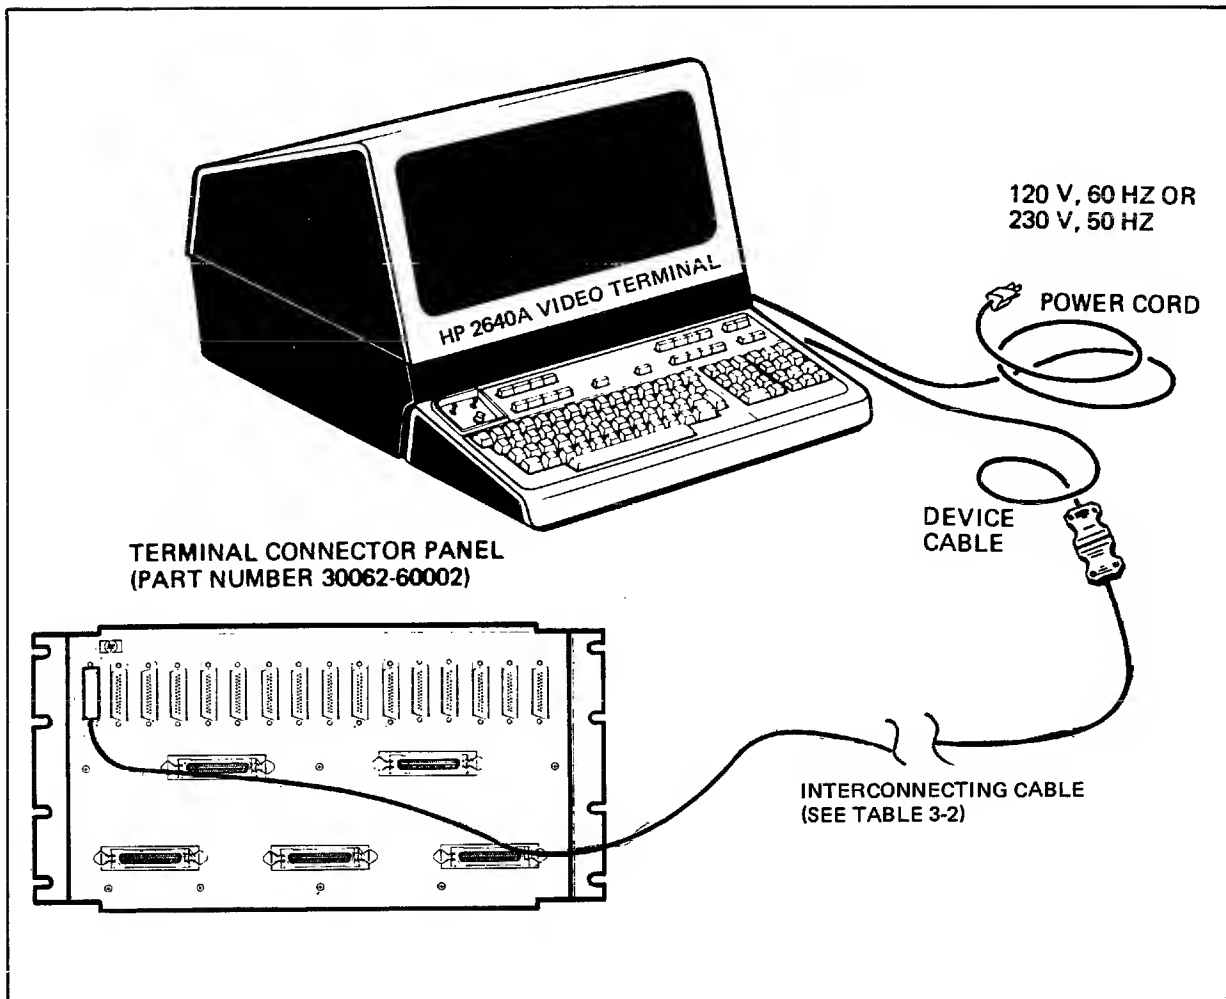
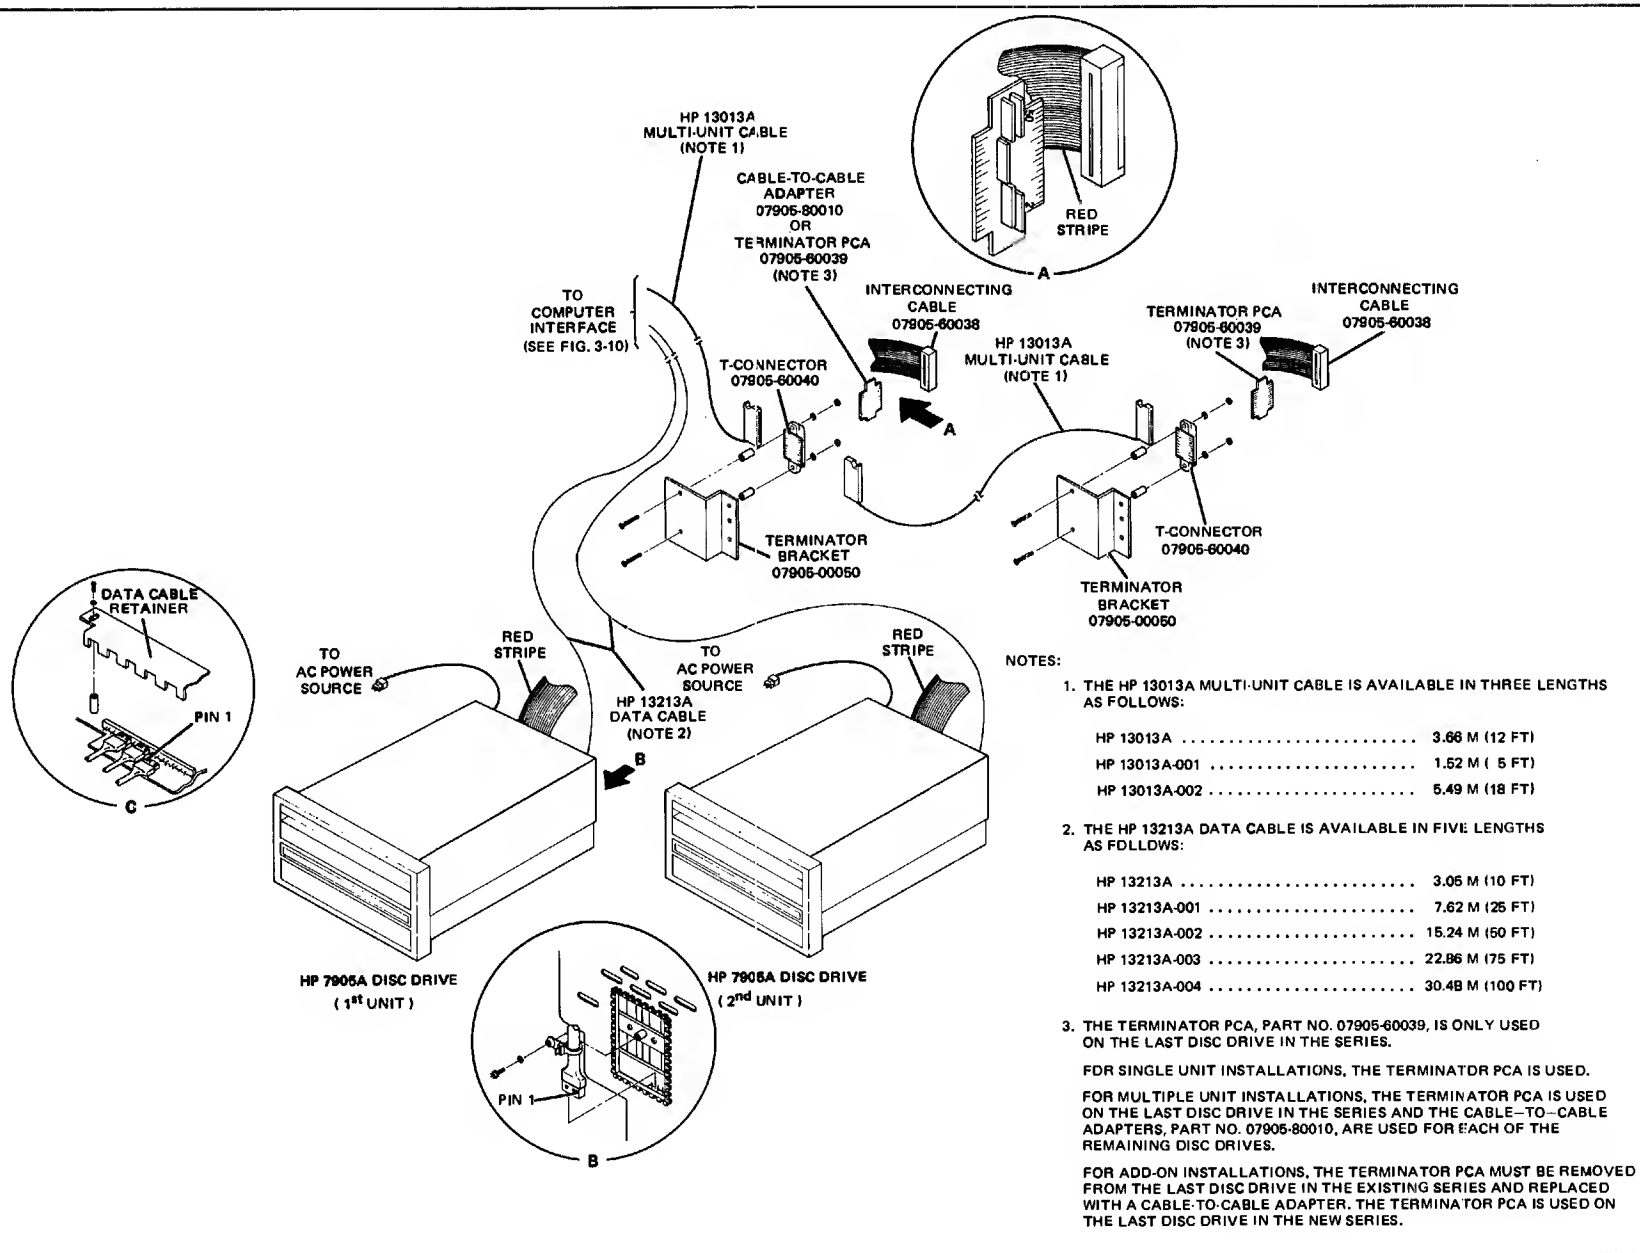

Figure 3-7. The HP 2640A System Console
Figure 3-11. Interconnecting HP 7905A Disc Drives
The HP 2640A Video Terminal is a free-standing cathode ray tube input/output device such as the HP 2640A Interactive Display Terminal. The Video Terminal is connected directly to an HP 3000 Series II Computer System through an HP 30032B Asynchronous 16-Channel Terminal Controller Subsystem as the System Console or as one of several remote user terminals. Remote user terminal connections are made through a Bell Telephone Model 103 Data Modem and an HP 30032B Option 001 or Option 002 Subsystem. See figures 3-7, 3-8, and 3-9.
All cables required for the three uses of the HP 2640A Video Terminal with a system are noted within figures 3-7, 3-8 and 3-9. Also, you should note the following restrictions:
If an HP 2640A is to be used as the System Console, its interface cable must be connected to jack J0 on an HP 30062A Connector Panel. If an HP 2640A is to be used as a remote user terminal, its interface cable must be connected to any other jack than J0 on an HP 30062A Connector Panel. In either case, uncoil the interface cable and connect equipment as shown in figure 3-7 or 3-8 or 3-9. Connectors on the back of the HP 2640A are keyed or notched to match the cable terminators that can be installed there. Connect the AC power cable into the peripheral AC power receptacle. Do not turn-ON AC power to the HP 2640A at this time.
**3-13. INTERCONNECTING HP 7905A DISC DRIVES.** Connecting an HP 7905A Disc Drive to the HP 3000 Series II Computer System Model 5 is a direct process for two cables. However, in multi-unit installations, two HP 7905A Drives must be "daisy-chained" from one part number 13037-60002 Device Controller PCA. Both methods are explained by figure 3-11 and these steps:
1. If they aren't already there, connect one end of an HP 13031A Multi-Unit Cable and an HP 13213A Data Cable to the part number 13037-60002 Device Controller PCA. Refer to the SYSTEM SUPPORT LOG and to figure 3-7 for the location of the Device Controller PCA. Also note the Data Cable Retainer shown in Detail C of figure 3-11.
4. Insert the Terminator PCA, and if step 2 above was used, the Cable-to-Cable Adapter into a part number 07905-60040 T-Connector. Orient the parts as shown in figure 3-11.
5. Connect one end of the HP 13031A Multi-Unit Cable already connected to the part number 13037-60002 Device Controller PCA to the right edge (as viewed from the rear) of the T-Connector, as shown in figure 3-11.
6. For a two Drive installation, connect one end of the other HP 13031A Multi-Unit Cable to the left edge (as seen from the rear) of the T-Connector, as shown in figure 3-11.
8. Connect the one or two HP 13213A Data Cables with cable clamp to connector A7P4 at the rear of the Drive(s) through the opening shown in figure 3-11 detail B. Secure the cable clamp as shown.